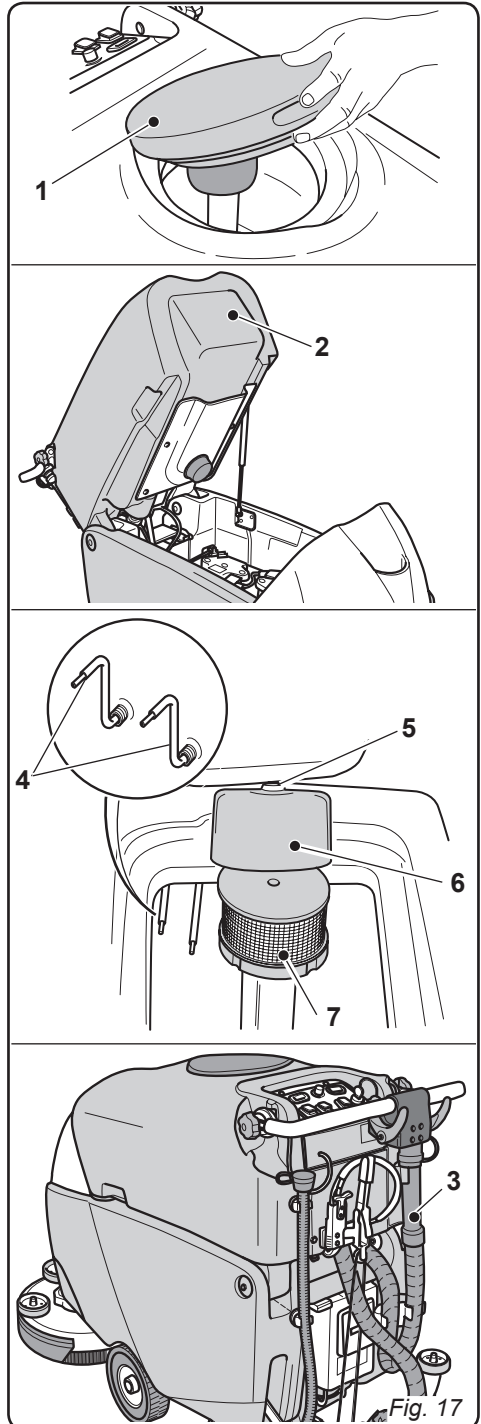

Fig. 17
10.1.b - Cleaning the recovery water tank (Fig. 17)